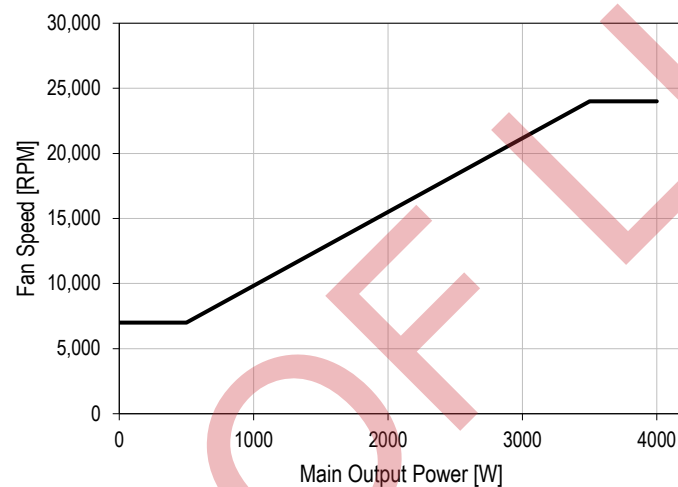

Figure 4. Fan speed versus main output power
- Load depending Fan Speed curve, see *Figure 4*. This curve is in use at nominal conditions.